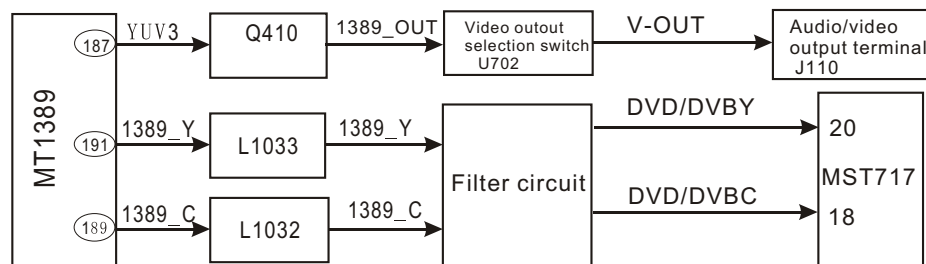

Figure 3.2.13.1 Video signal flow chart
1. Video signal flow chart diagram is shown as in the following figure 3.2.13.1 :